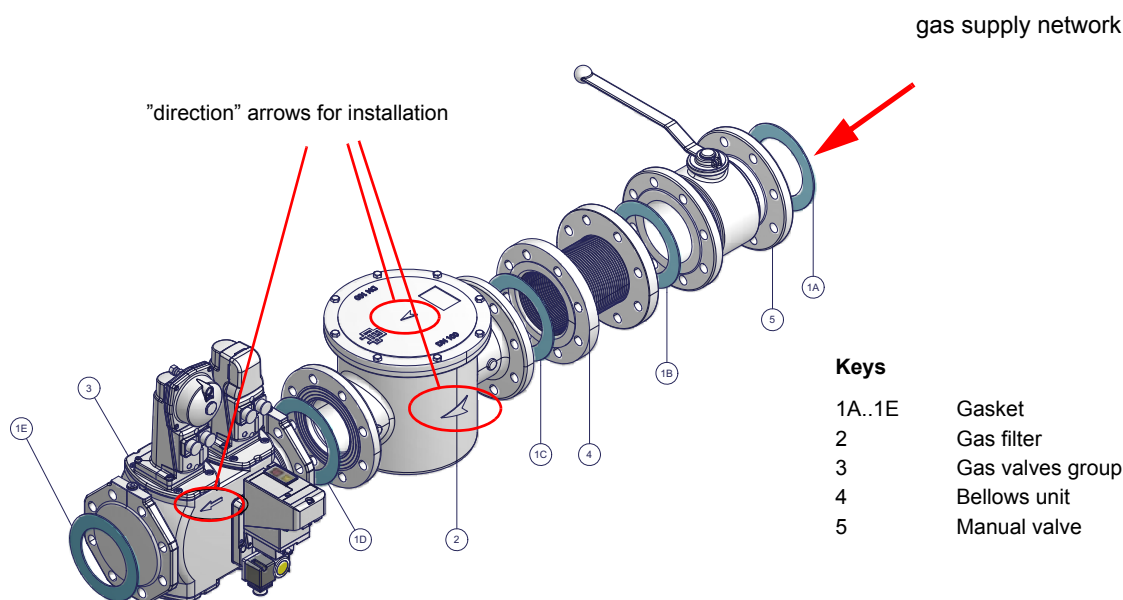

Fig. 10 - Example of gas train
- 1-b) in case of flanged joints: place a gasket (no. 1A..1E - Fig. 10) between the elements
ATTENTION: once the gas train is mounted according to the diagram on Fig. 10, the gas proving test must be performed, according to the procedure set by the laws in force.